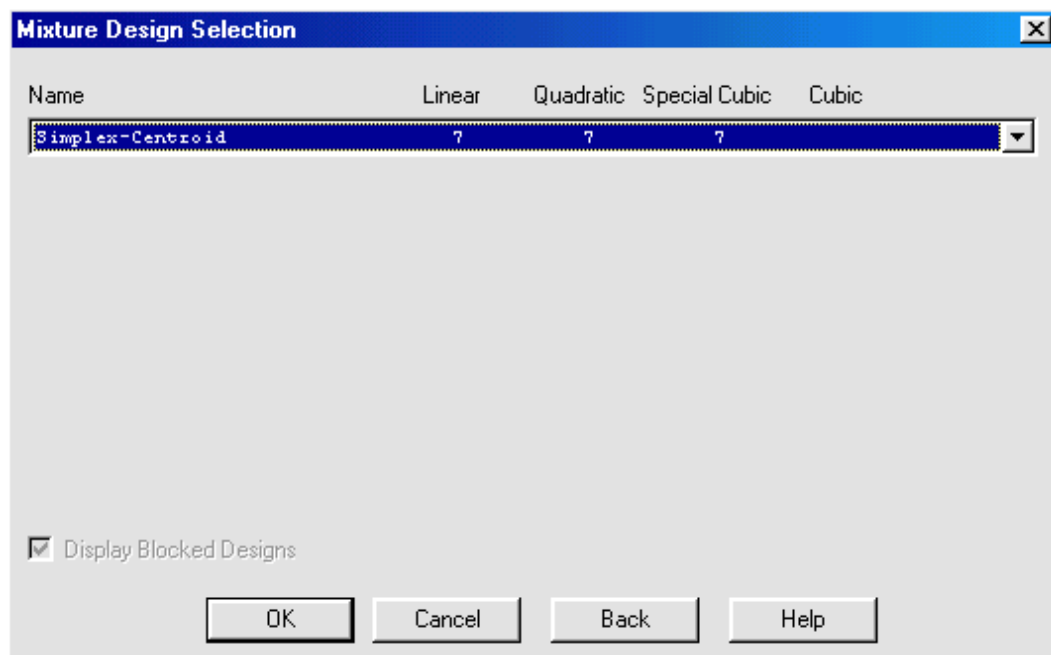

Figure 2-4. Mixture Design Selection Dialog Box
5. Accept the defaults by clicking OK to display the Mixture Design Selection dialog box (see Figure 2-4).